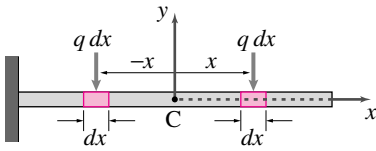

Figure 8.12
2. **The equivalent system at the mid-point:** We have already calculated the net force that can replace the uniformly distributed load. Now we need to calculate the couple at the mid-point of the beam to get the equivalent force-couple system. Again, consider a small segment of the beam of length dx located at distance x from the mid-point C (see Fig. 8.12). The moment about point C due to the load on dx is $(q dx)x(-\hat{k})$. But, we can find a similar segment on the other side of C with exactly the same length dx , at exactly the same distance x , that produces a moment of $(q dx)x(+\hat{k})$. The two contributions cancel each other and we have a net zero moment about C. Now, you can imagine the whole beam made up of these pairs that contribute equal and opposite moment about C and thus the net moment about the mid-point is zero. You can also find the same result by straight integration: